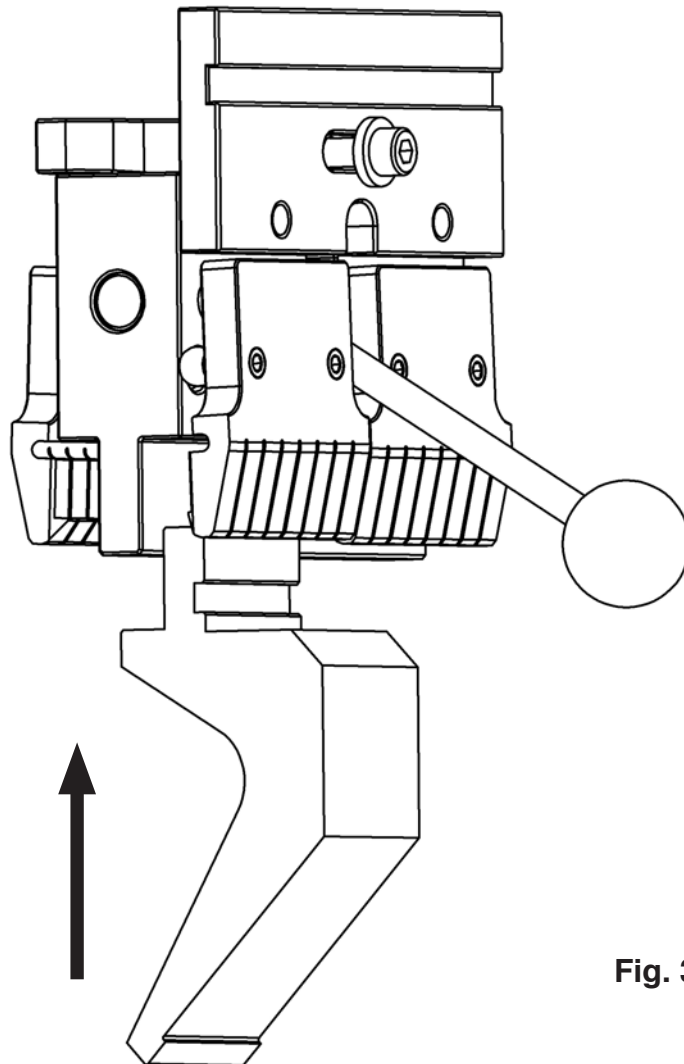

Fig. 3
1. 415mm short punches and individual pieces of sectionalised punches are located by simply placing them under the clamps and pushing them upward or sliding them in from the end of the clamp. (Fig. 3)